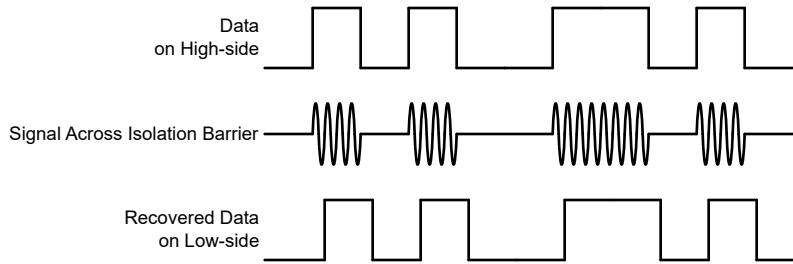

Figure 6-4. OOK-Based Modulation Scheme
The AMC22C12-Q1 uses an on-off keying (OOK) modulation scheme, as shown in Figure 6-4, to transmit the comparator output states across the SiO_2 -based isolation barrier. The transmit driver (TX) shown in the Functional Block Diagram transmits an internally-generated, high-frequency carrier across the isolation barrier to represent a digital one and does not send a signal to represent a digital zero.